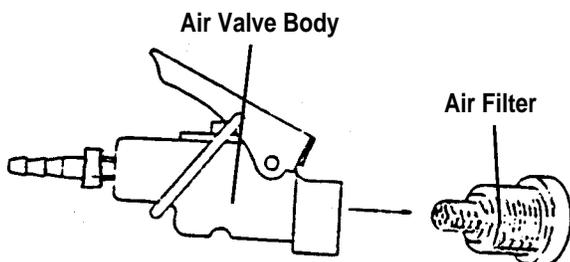

Figure 4
4. Periodically remove the air filter located inside the air valve body. See Figure 4. Wash the air filter in a suitable solvent, and air blow dry, making sure all dust and particles are removed from the filter.